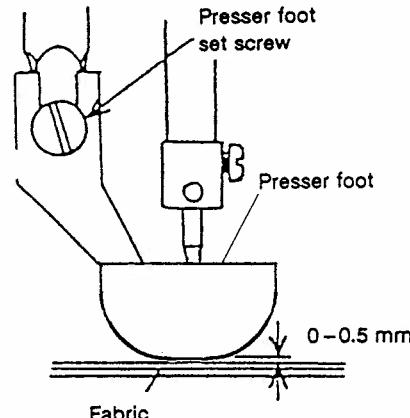

Fig. 8.16
- (1) Check that the needle passes through the center of the presser foot hole.
- (2) Adjust the height of the presser foot by operating the sewing machine manually, by loosening the presser foot set screw or presser bar set screw (see Fig. 10.11) to yield a gap of between 0 and 0.5 mm (see Fig. 8.16) between the bottom-most position of the needle bar and surface of the fabric to be sewn, and then by tightening up the screw after adjustment.